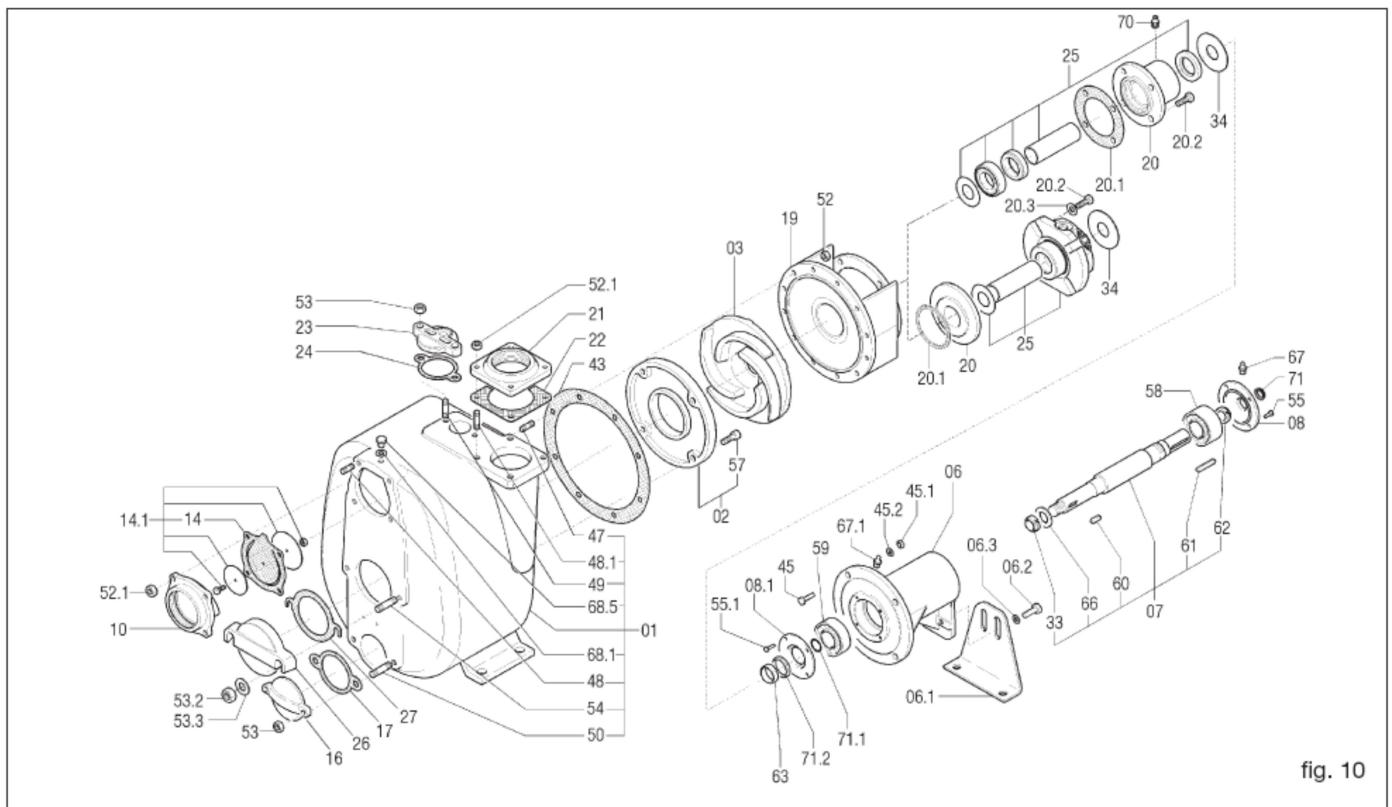

fig. 10
pump has a non return valve (14) incorporated in the suction port (fig. 10).
13.2 Replacing the impeller (fig. 10)
- Unscrew the nuts (52) and remove the pump casing, taking care not to damage the casing gasket (43)
- Block the impeller (03) and unscrew the self-locking impeller nut (33)
- If necessary, replace the casing gasket (43)
13.3 Replacing the wear plate (fig. 10)
- Unscrew the wear plate screws (57)
- Remove and replace the wear plate (02) If necessary, replace the casing gasket (43)
13.4 Replacing the check valve (fig. 10)
1 - 2 - 3 (figs. 10, 11, 12)
- Mount the seal support ring (25.1). Push this forward until it is possible to reassemble the impeller key (60)
- Reassemble the impeller (03), the impeller washer (66) and tighten the impeller nut (33)
- Reassemble the casing gasket (43) after smearing both sides with grease
13.6 Replacing type 4 - 5 cartridge seals (fig. 10, 13, 14, 15, 16)
- Unscrew the nuts (52) (fig. 10) and remove the pump casing, taking care not to damage the casing gasket (43)
- Block the impeller (03) and remove the self-locking impeller nut (33)
To achieve this, dimensions A and B in figs. 17, 18, 20, 21 must be as nearly as possible equal. To this end, use the shims (25.2) (fig. 11) supplied with spare mechanical seals. These shims are used to move the impeller further forward if it is too far from the front wear plate or too near the rear wear plate. The shims should be mounted between the seal support ring (25.1) (fig. 11) and the impeller. Further adjustments can be carried out using casing gaskets (and rear wear plate gaskets on models which fit these). The presence of the casing gasket (43) (fig. 10) 0.5 mm thick then creates the correct distance (fig. 19).
13.8 Maintenance of the bearings (fig. 10)